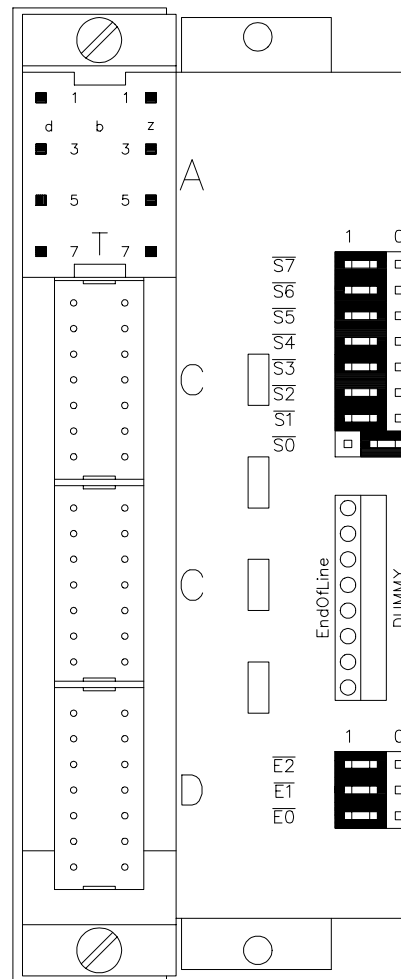

Figure 1 Front view
The 10008/P4/1 module has the following features (see Figure 1):
- a wire-wrap adapter (position A in Figure 1) for the 24 Vdc P-bus supply voltage(s), the 'RUME' input, the 'RUMA' output and the protective earth connection,
- two identical redundant P-bus plug positions (positions C in Figure 1),
- a lamp-test signal input is available on pin c25 of plug position D (see Figure 1), and